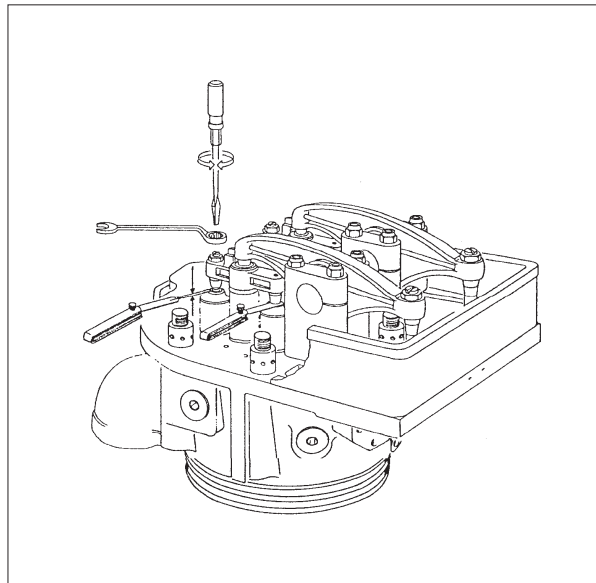

Fig. 2.
- 6) Place another feeler gauge, at the same size 0,40 mm above the other valve spindle, see fig. 2.
- 7) Adjust the clearance between valve bridge and valve spindle by means of the adjustment screw on the valve bridge, and tighten the lock nut, see fig. 2.